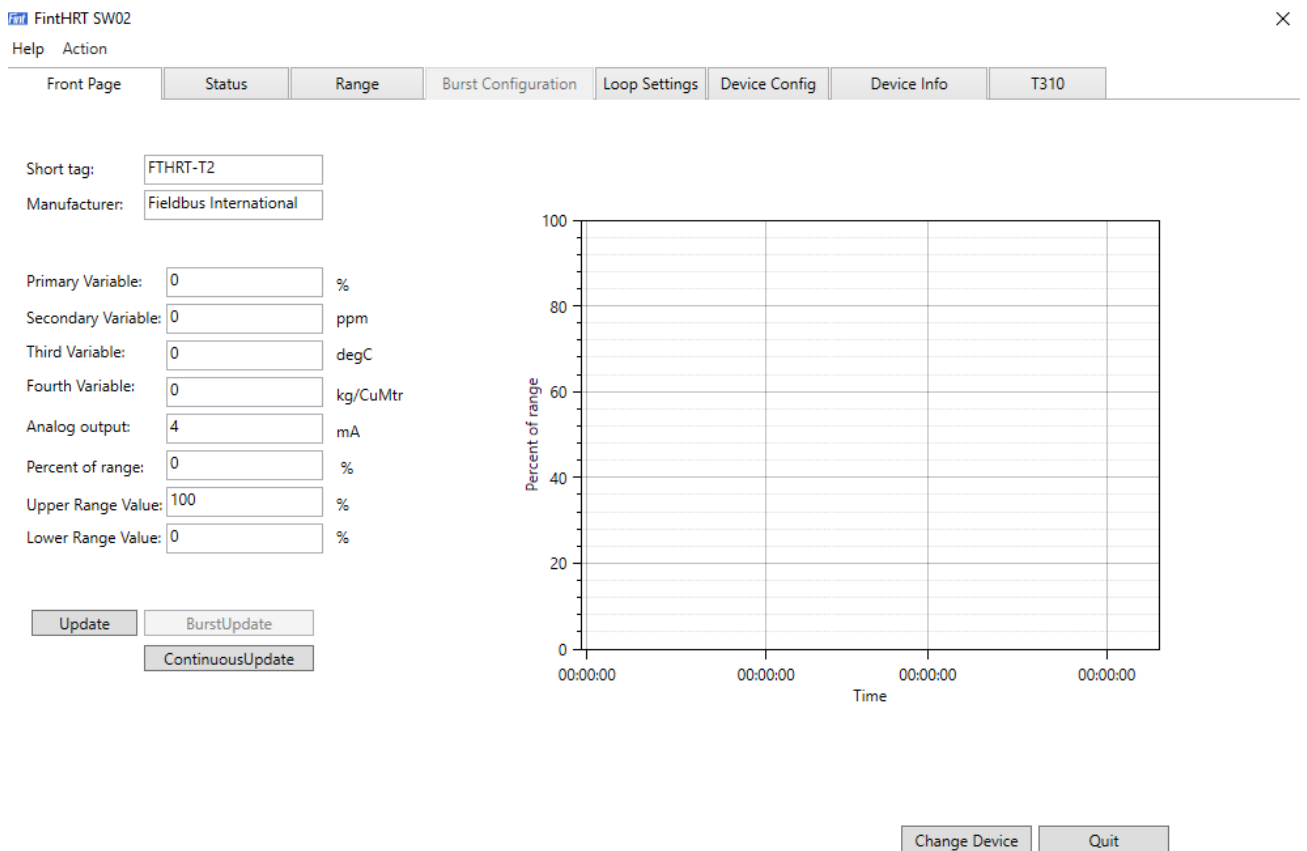

Figure 16. The appearance of the Front page in SW02
The Primary Variable (PV) can be shown in a window as a function of time. See Figure 16. The readings are either fetched by the T310H7 using Command 3, or Read Requests from the T310H7 (Continuous Update). This will lead to two updates a second. An alternative is to use the Burst Update button. This will force the T310H7 to send updates three times a second.